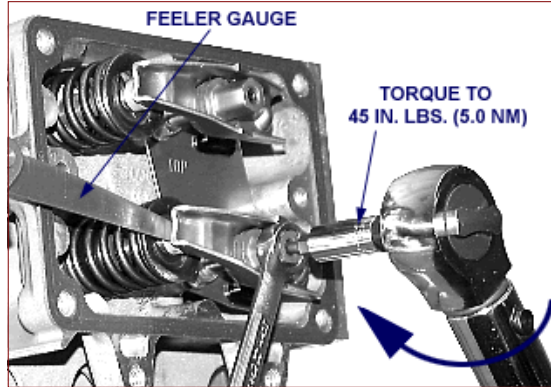

Fig. 24 - Adjust Valve Clearance
5. Adjust as required, Fig. 24.